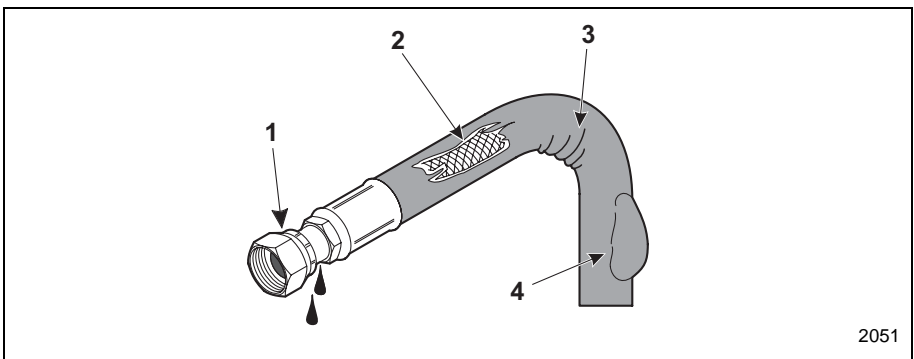

Figure 3-3 Hydraulic Hose Damage
- Some examples of common hydraulic hose damage are shown in Figure 3-3.